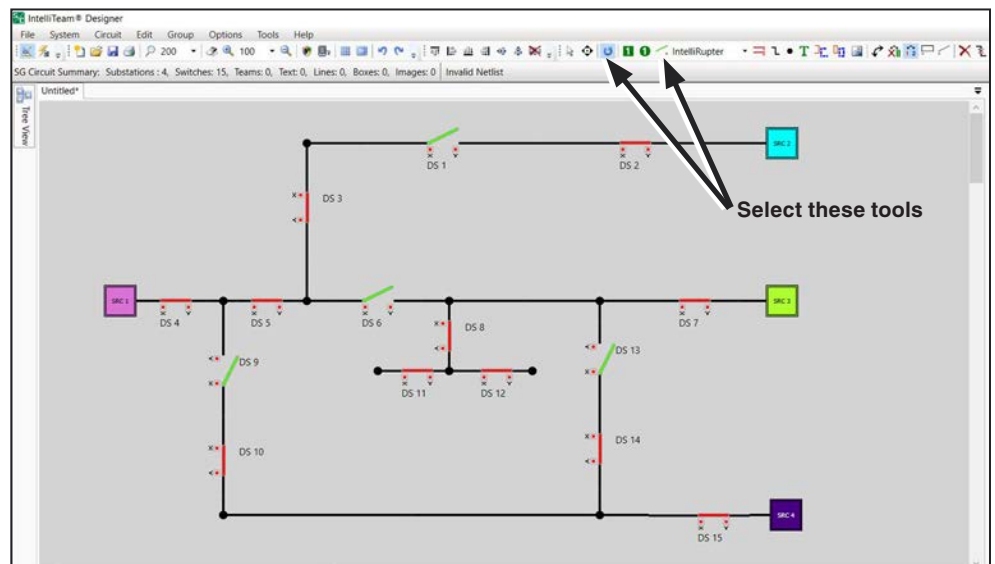

Figure 53. Insert switching devices with Repeat Insert and Add Switch tools.
STEP 1. Select the Repeat Insert and Add Switch tools to insert all of the switching devices shown in Figure 53.